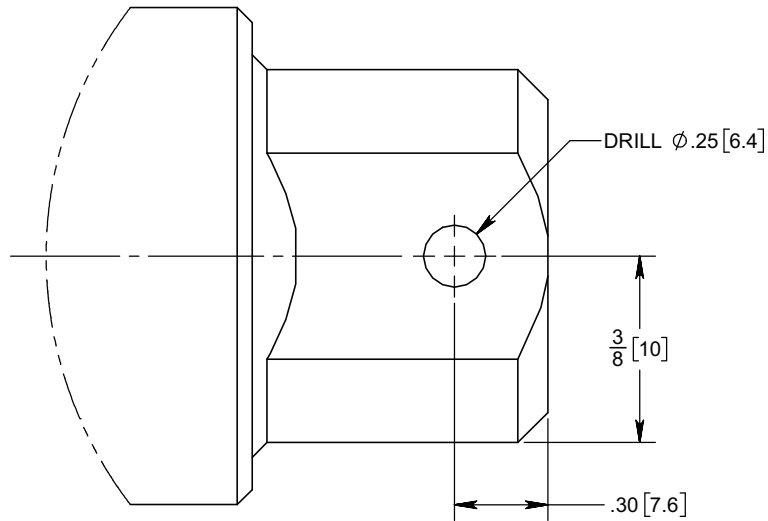

Figure 1: Hole Location on Bottom of LWCV Cylinder
2. Check if there is a hole present on the cylinder rod, if not, then drill one 1/4" hole on each cylinder as shown in Figure 1 on page 2.